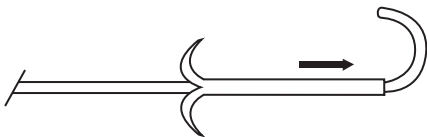

Fig. 1
1. Slide Peel-Away straightener forward to open catheter tip. (**Fig. 1**)